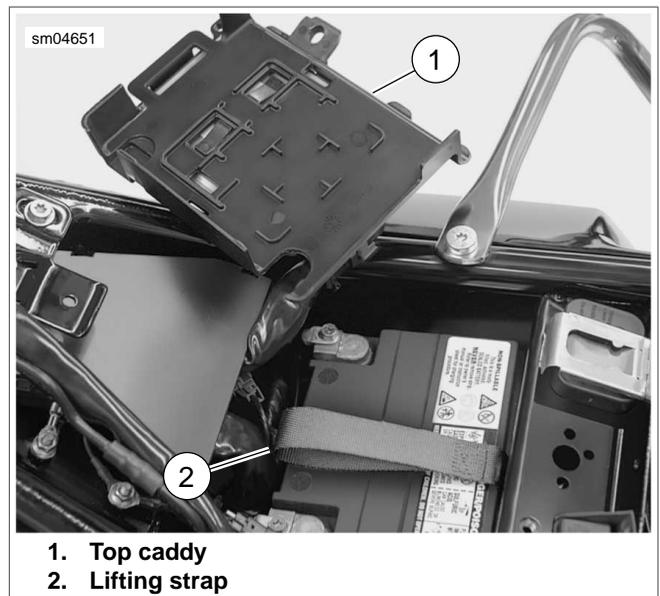

Figure 1-32. Move Top Caddy Aside
4. Rotate ECM connector conduit so that top caddy is positioned above upper right frame tube. See Figure 1-32.
6. Fold lifting strap forward over top of battery. See Figure 1-32.